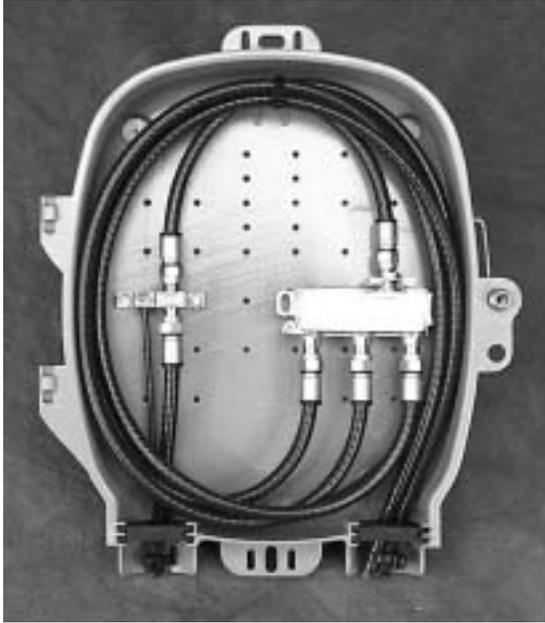

Figure 2
3.2 Locate components as shown in Figure 2 to achieve the largest cable bend radius. If applicable, allow room around the outside perimeter of the base to accommodate cable slack storage. Figure 2 shows a typical installation with internal slack storage. Use #8 thread forming screws to install all components (#6 may be used if necessary). A $\frac{3}{8}$ -inch screw length is suggested for most applications — care should be taken not to over-torque screws.
- Replace the grommets and route the cable through them as shown in Figure 2.
5.3 Slack Storage. In order to avoid possible signal degradation, care should be taken to allow for the largest obtainable cable bend radius. This can be achieved by locating all drop components such that cable routing can take place around the outside perimeter of the base. Figure 2 shows an example of a typical installation. In some applications, cable slack storage may have to be stored outside the enclosure.